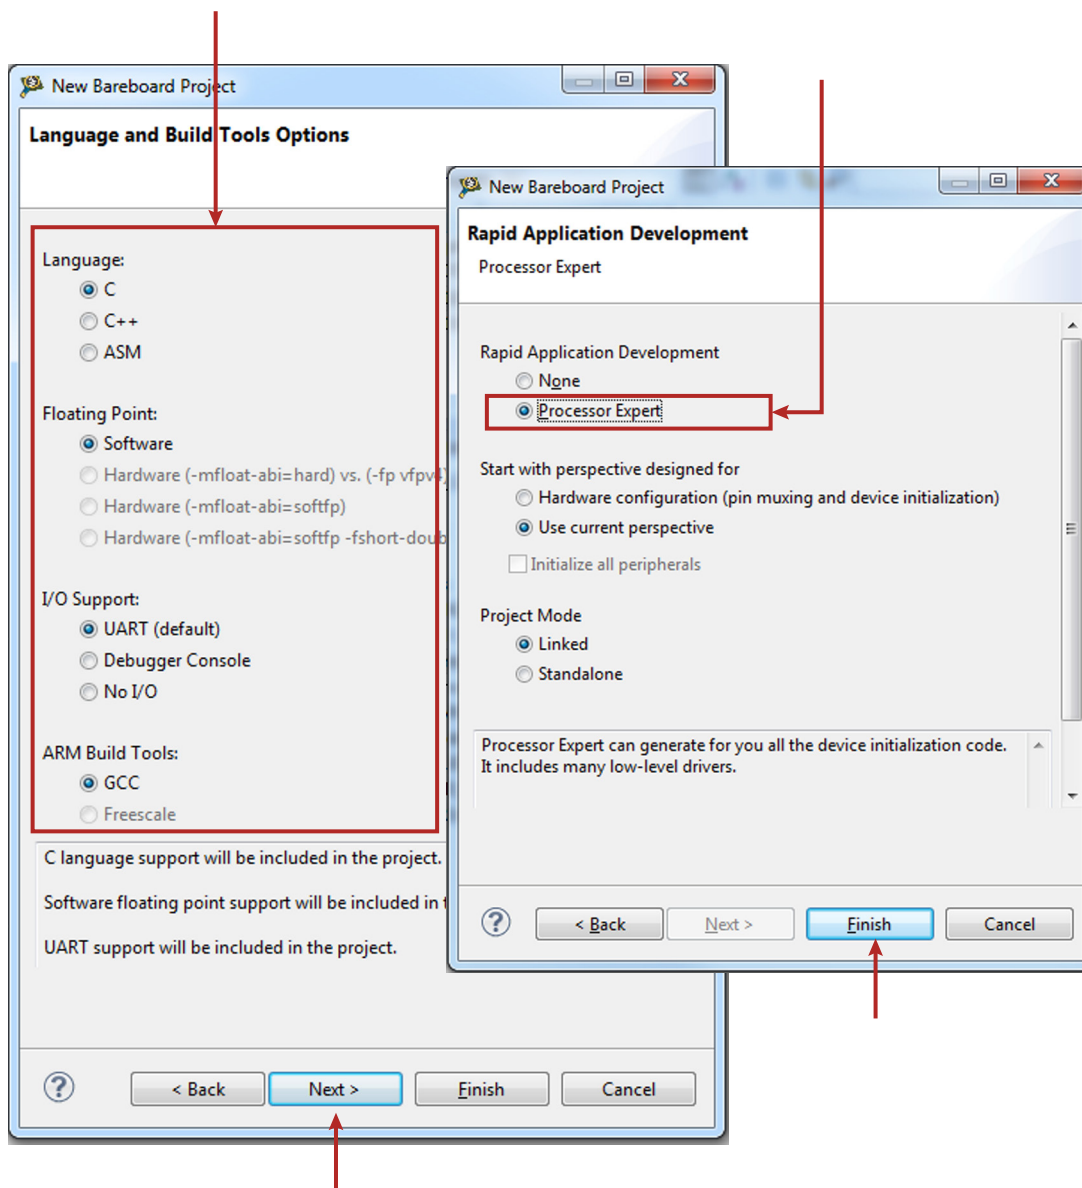

Figure 25. Selecting the language, build tools, and the rapid application development options
4. In the **Language and Build Tools Options** dialog box, select the options for the project. (In Figure 25, the default options are selected.) Then click **Next**.